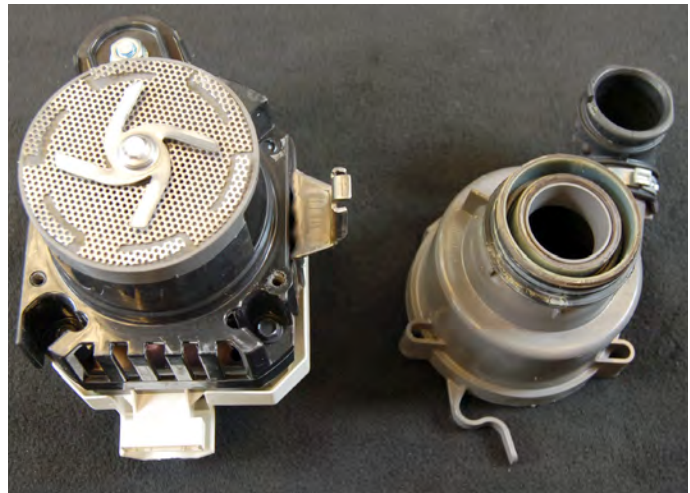

Figure 6
8. Remove pump housing from motor assembly (see Figure 6).